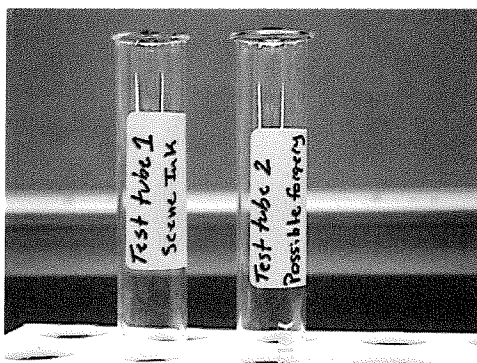

Figure 1, Ink Extractions
** At this point, you should have two ink extracts: **scene ink**, and **possible forgery ink**. See figure 1 below.